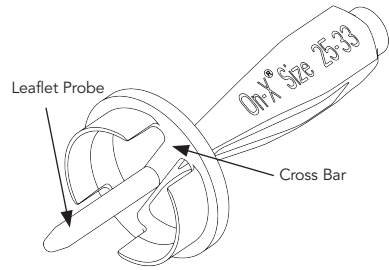

Figure 3: Valve Rotator
**Rotators** - The valve rotator (Figure 3) is used for reorienting an in situ valve and may be used to verify leaflet mobility. The valve rotator consists of a plastic head with a centrally located leaflet mobility probe and an attached handle. The valve rotator is properly oriented for insertion into the valve when the cross-bar on the head is aligned with the leaflet pivot axis and the probe tip is inserted into the central orifice between the leaflets.